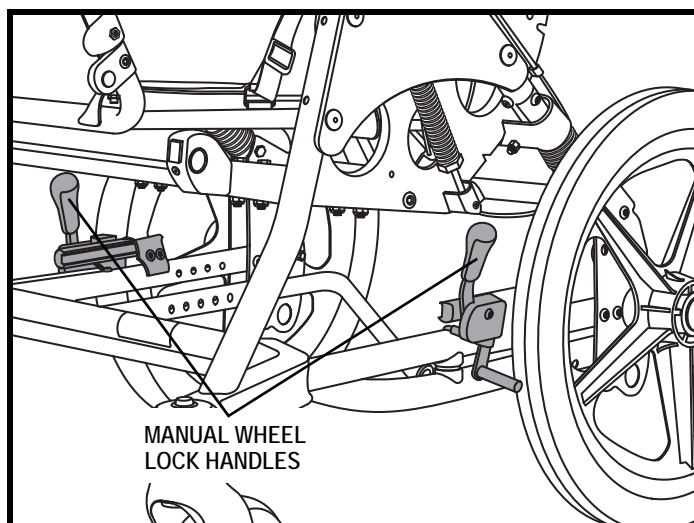

Figure 9. Kids ROCK 2 and ROCK 3 Manual Wheel Lock
1. Locate the manual wheel lock handles on both sides of the frame, just in front of the rear wheels. **See figure 9.**